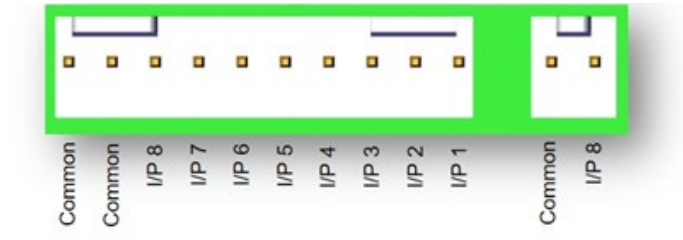

Figure 12 - NX10-ACS-DSP PCB Switch Input Wiring
On the back of the NX10-ACS-DSP PCB keyboard display are two (2) male plug-in connectors; one 10-pin and one 2-pin. The 10-pin male connector includes two (2) Common pins and eight (8) separate switch input pins. The second 2-pin male connector is a duplicate of the 10-pin's Common and input eight (Figure 12).